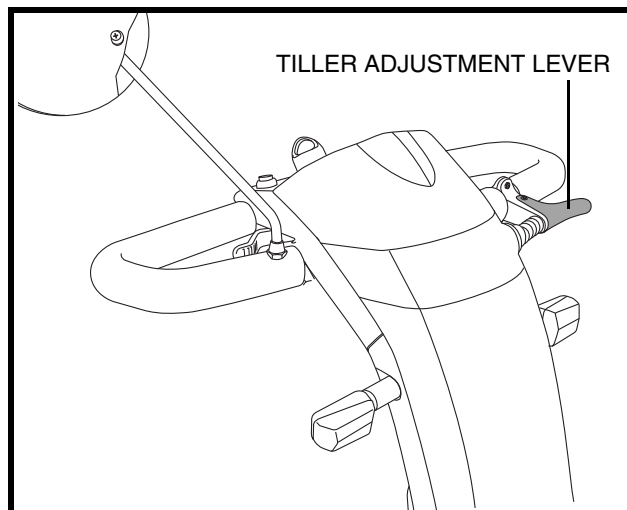

Figure 14. Tiller Adjustment
1. Squeeze the tiller adjustment lever. See figure 14.